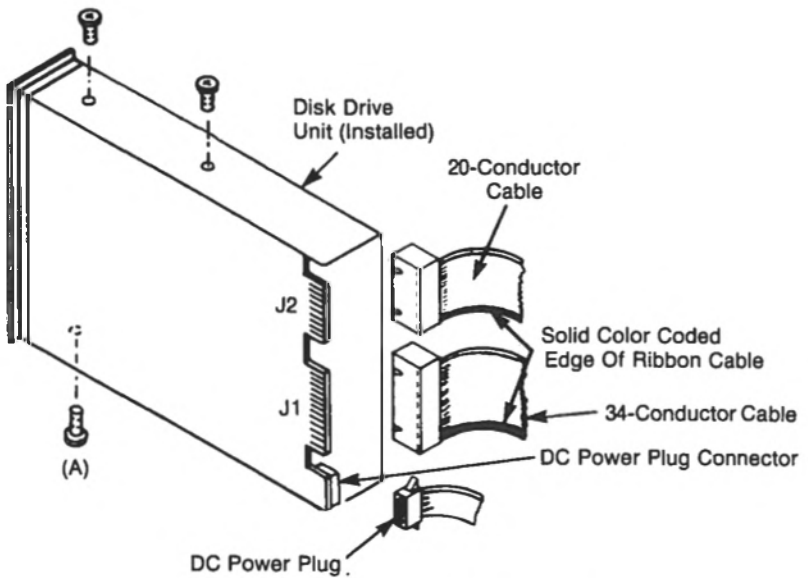

Figure 3-39 Drive Connectors
6. Align the top two mounting holes with the elongated slots on top of the drive bracket. Insert the two screws into the top mounting holes and drive holes and turn clockwise (see Figure 3-39).
7. Insert the third screw (A) into the hole in the lower portion of the drive and turn clockwise until tight.